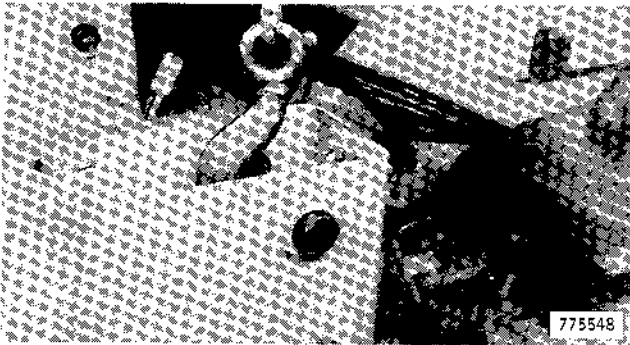

Figure 23
- 28. Connect a chain hoist to the loader upright, Figure 23.